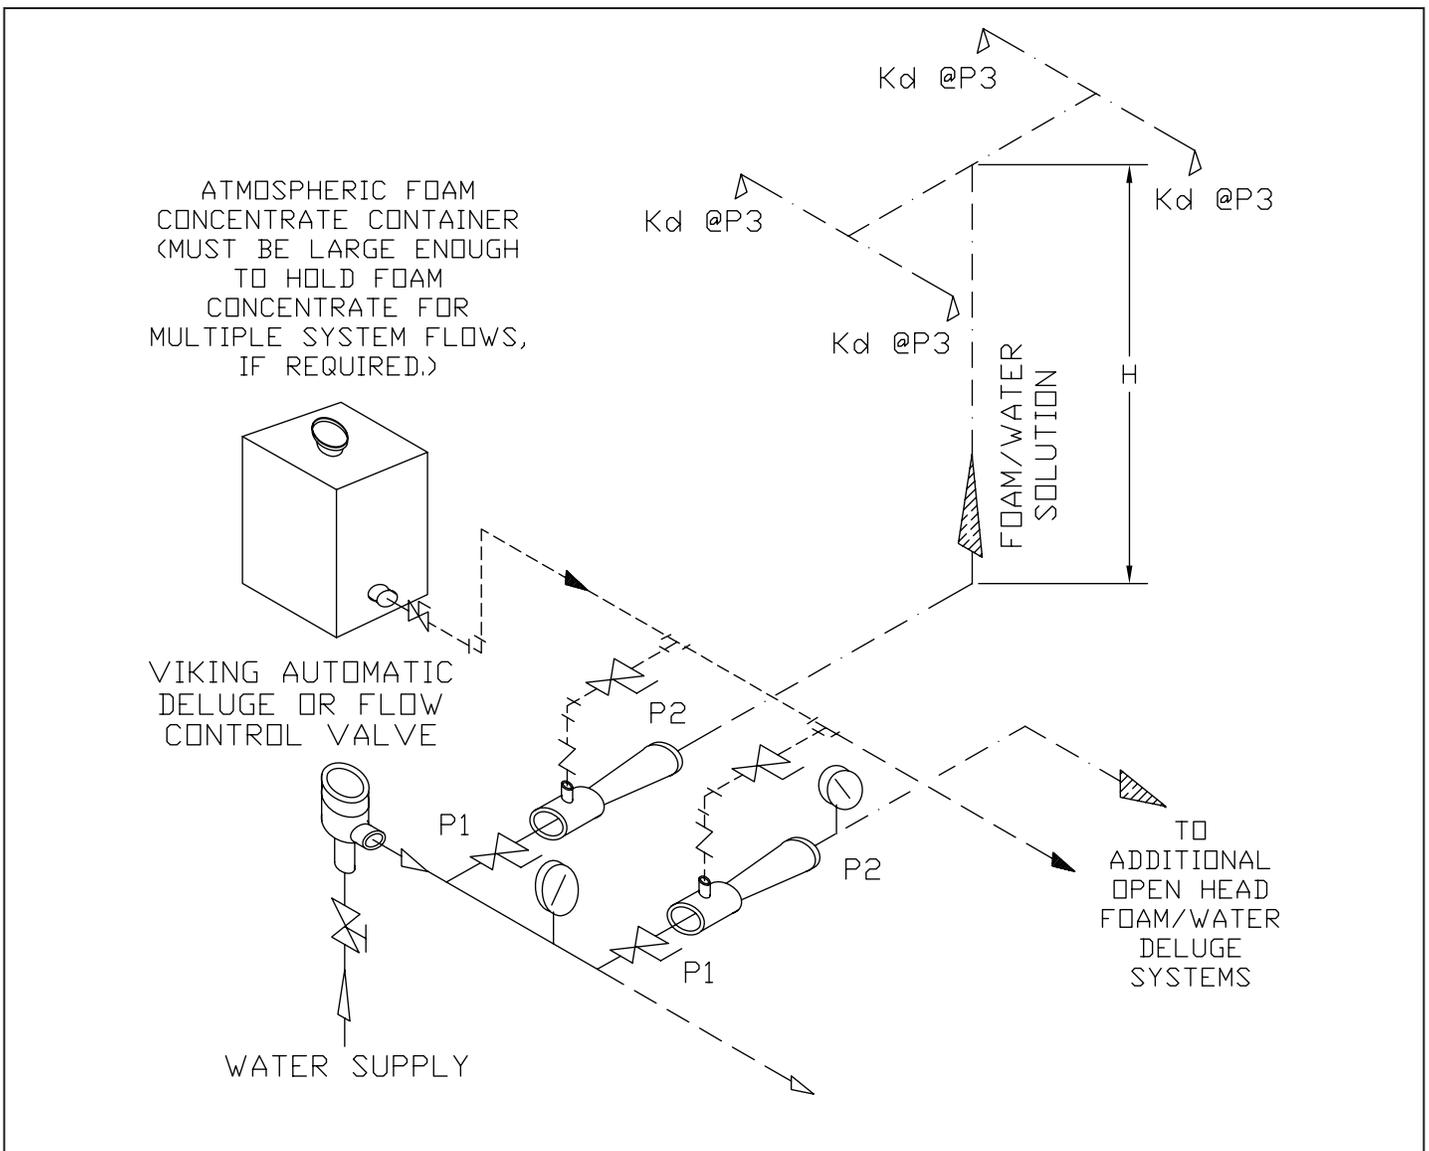

FIGURE 1
The Example in Figure 1 indicates a small four head system covering approximately 400 ft². of operating area. It will require a .2 gpm/ft² density, and a 10 minute duration, using AFFF 3% foam for a hydrocarbon fuel. The water pressure available is 150 psi at the eductor. This 150 psi inlet pressure will affect the selection process of the eductor, as it will limit the amount of flow which can pass through the eductor. Therefore, the system may require one larger eductor, or multiples of smaller eductors, in order to provide the necessary foam/water solution to the discharge devices. For this example (Figure 3), a single larger flow eductor (model FE-90) capable of providing a foam/water solution to all four sprinklers will be used.
The estimated foam concentrate supply for Figure 1 can be calculated in the same fashion as for larger systems, by using the following formula; $EFC = \text{total system } (De) \times (A) \times (C) \times (D) \times (1.15)$, so the estimated amount of foam would be: